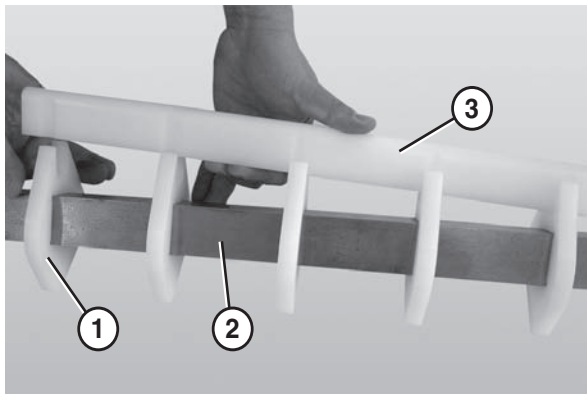

Figure 76
1. Slide the nose bar pucks (Figure 76, item 1) onto the nose bar drive post (Figure 76, item 2).
2. Attach the nose bar wear strip (Figure 76, item 3).